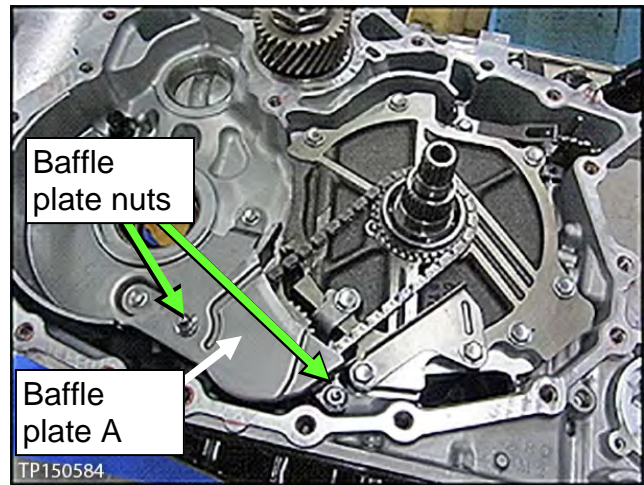

Figure 11C
- Remove the two (2) nuts from baffle plate A, and then remove baffle plate A (see Figure 11C).